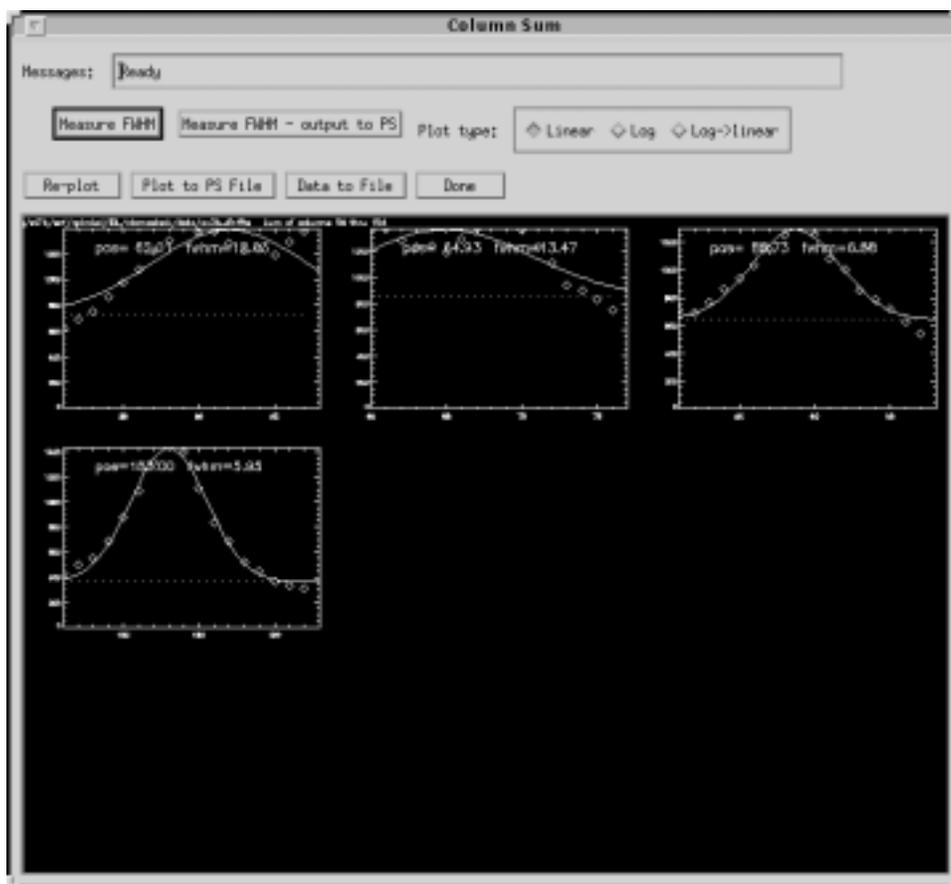

Figure 3.3: The Plot Popup Window: FWHM
- With this button, areas on the plot window can be selected with the mouse. Selection is terminated by using the RIGHT mouse button on the last coordinate of desired region. A gaussian is fitted to each selected region and the plot is replaced with panels containing the results. To return to the original plot, push . See figure 3.3 for an example.